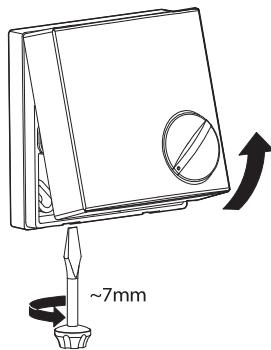

FIGURE 16: Lid
3. Use a screw driver to remove the lid from the humidistat. "FIGURE 16: Lid".